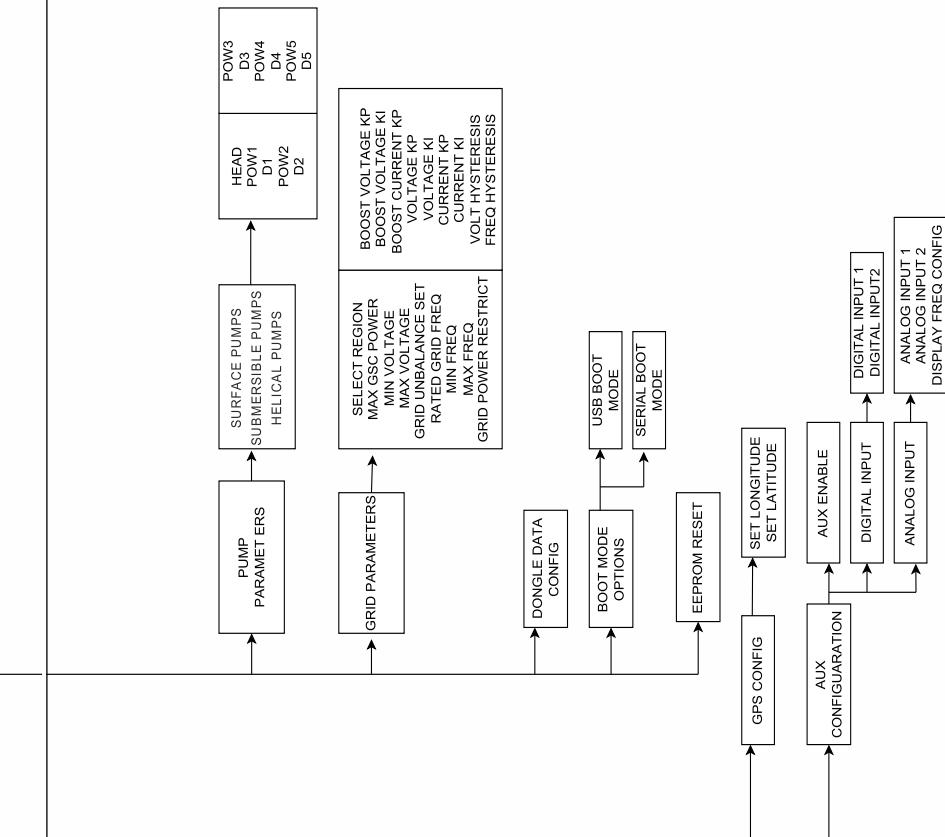

Figure 7.6 CONFIGURE Menu tree
i. **SOLAR PARAMETERS :** According to PV panels connected to the system parameters shown in the figure 7.6 can be set.
K) **AUX CONFIG.:** This section describe the usage of control input for this drive. There are two digital inputs & 2 analog inputs available in terminal connection block as shown in fig. 7.6